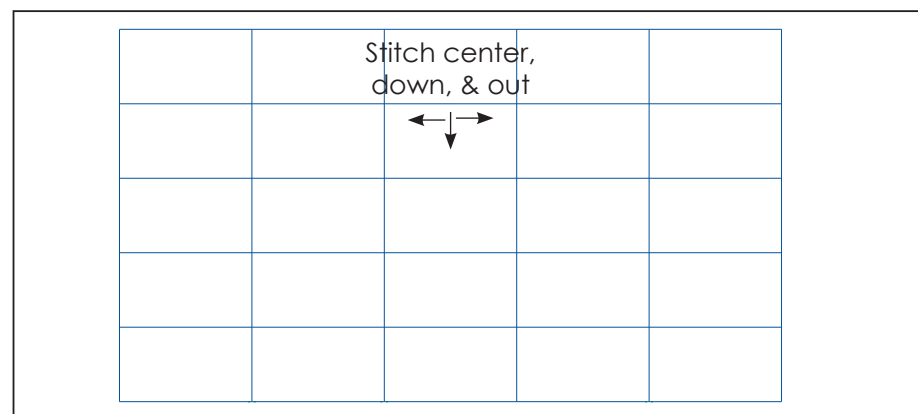

Figure 25: Stitch Panels Together
13. Continue to stitch panels together with stitch bolts center, down, and out. Tighten the M8 bolts to lock the panels in place. Refer to **Figure 25**.